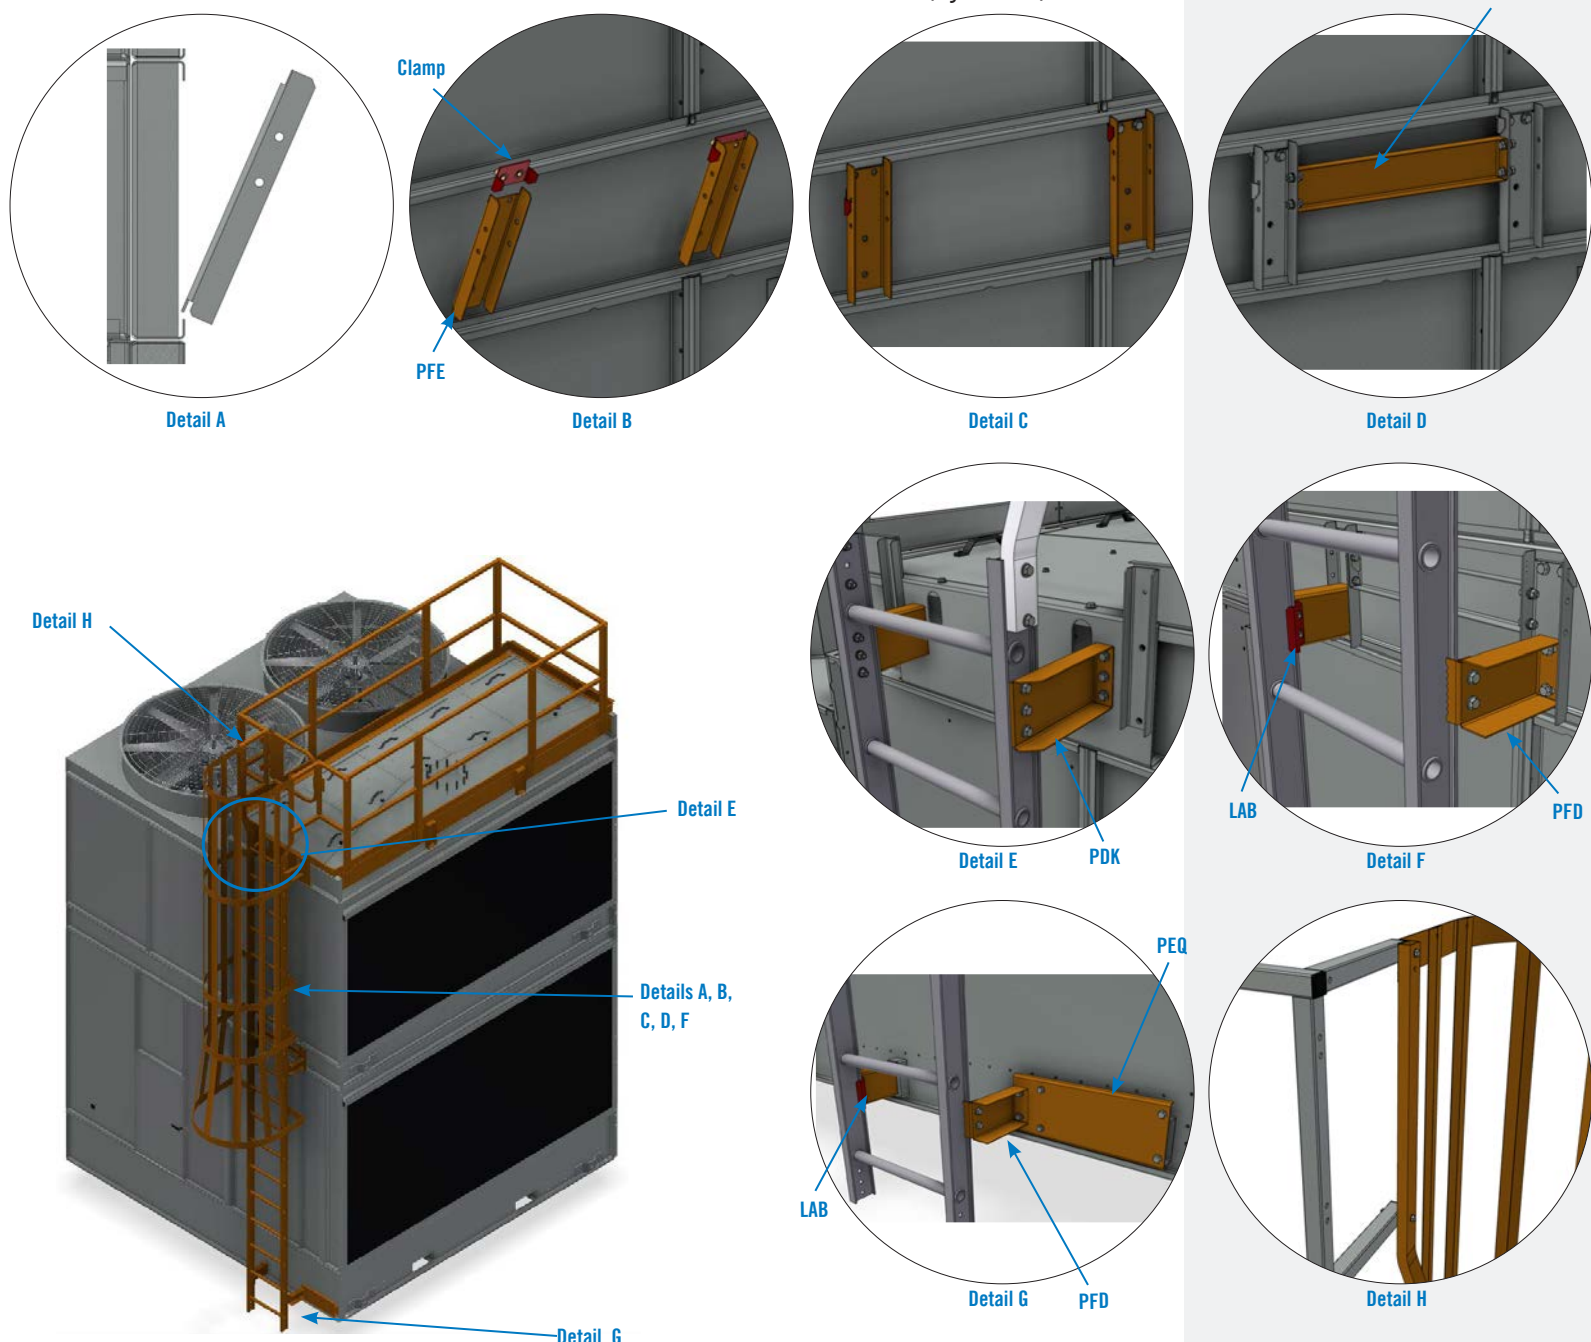

Figure 32. Hot Water Basin Handrail Ladder
- Drop the vertical mounting channels into the sheet metal break of the upper section base frame as shown in **Figure 32, Details A and B**.